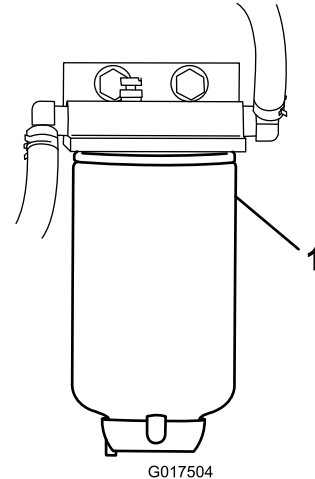

Figure 32
4. Unscrew the fuel filter from the bracket (Figure 32).